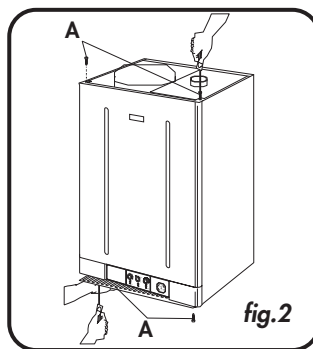

fig.2
- Undo the four shell attachment screws **A** (fig.2)